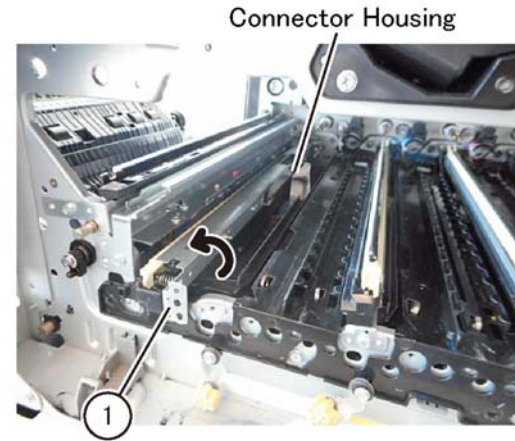

Figure 4 Preparation
11. Push down LPH (K) (1) in the direction of the arrow and place it such that the right side of LPH (K) is on the top, Figure 4.